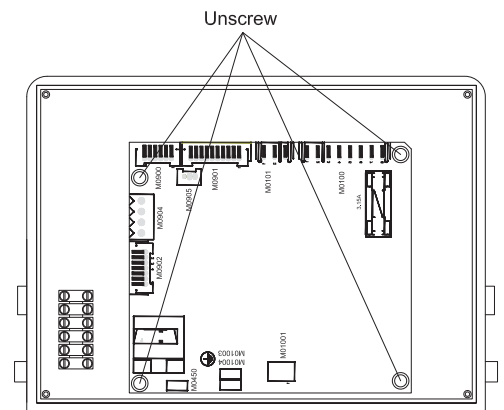

Fig.46
8.12 TO REMOVE/REPLACE C.H. DIVERTER VALVE (Fig. 46)
Close the on/off valves for the heating circuit and drain the water at drain point (fig.46).